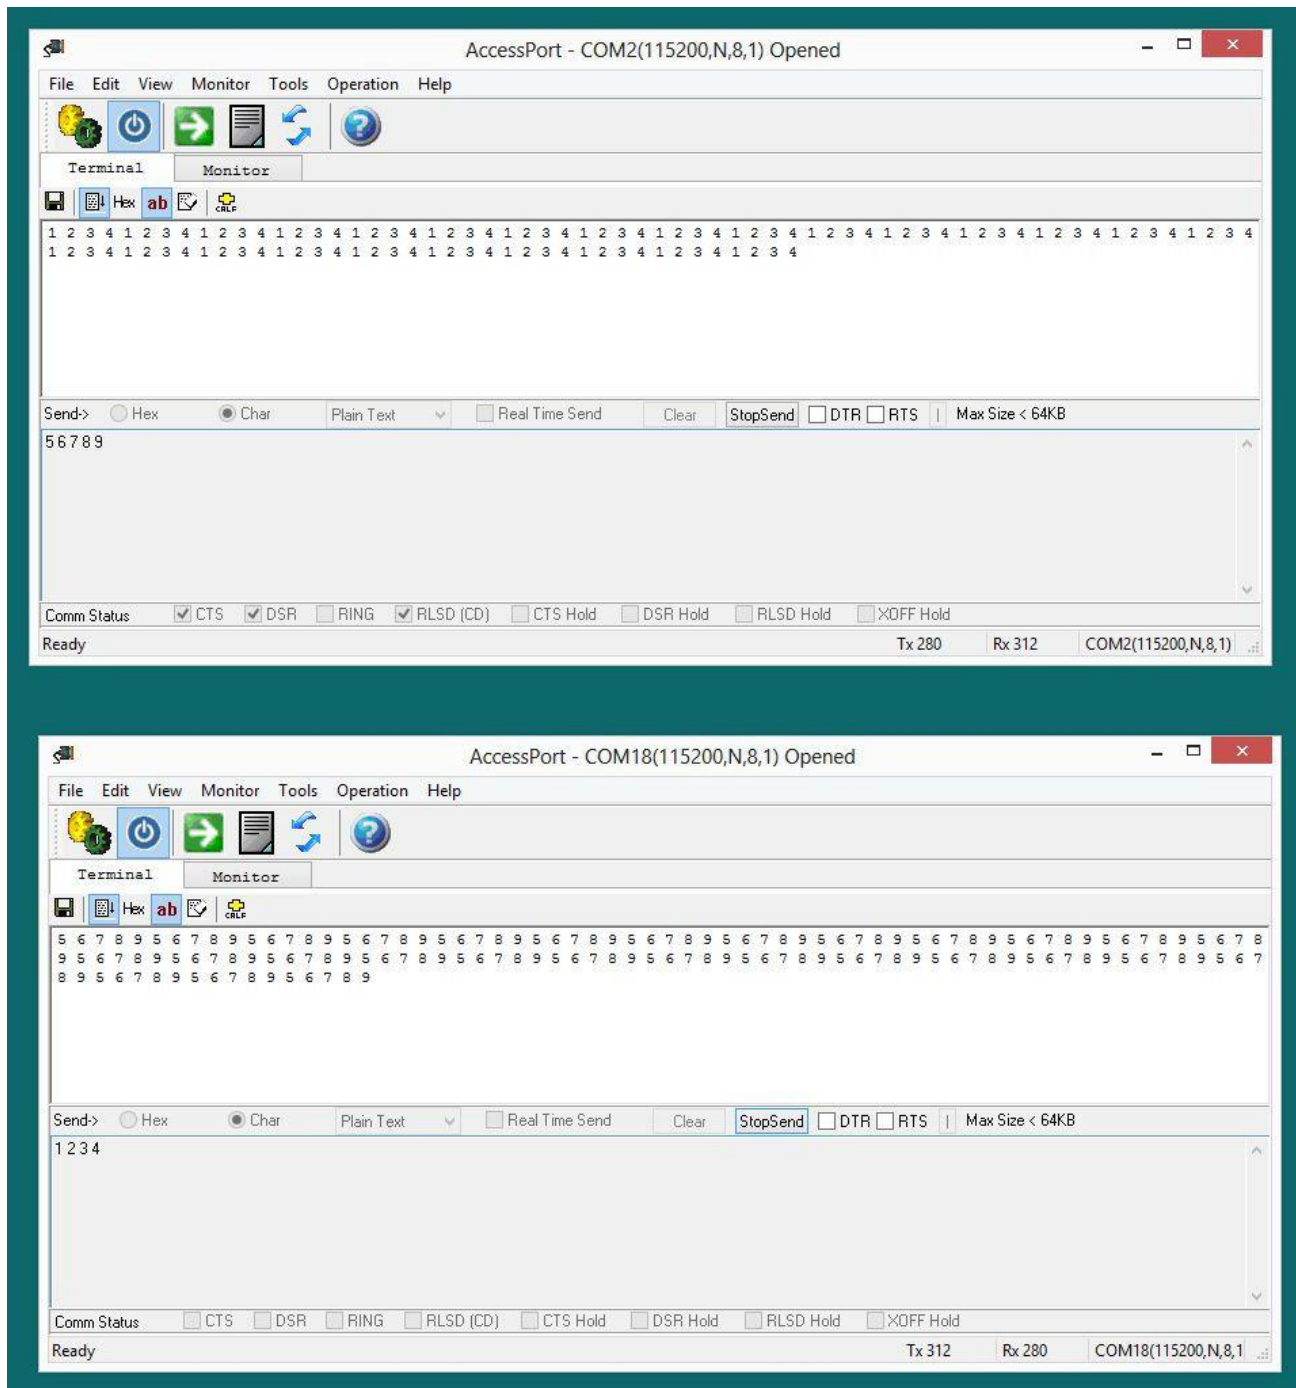

FIGURE 4.13 – ACCESSPORT LOOPBACK TEST RESULTS
- 5) In the input message boxes you should see the strings being received repeatedly. (SEE FIGURE 4.13).